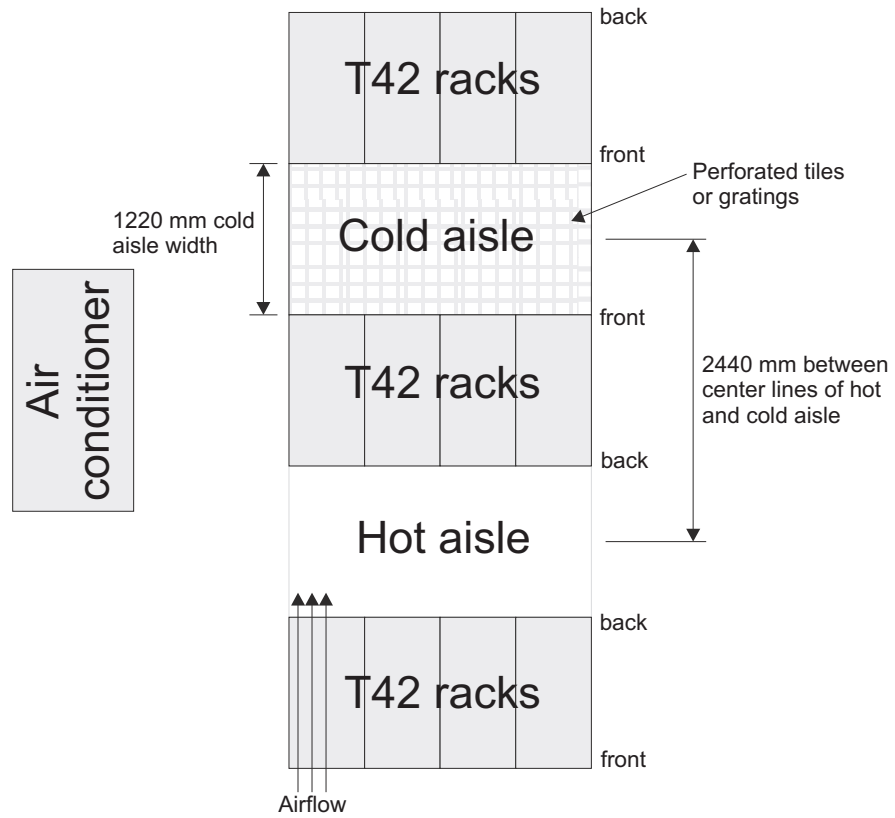

Figure 11. Example of cold aisle/hot aisle rack configuration
- Air enters at the front of the rack and leaves at the back. To prevent the air that is leaving the rack from entering the intake of another piece of equipment, you must position the racks in alternate rows, back-to-back and front-to-front. This arrangement is known as “cold aisle/hot aisle” and is shown in Figure 11 on page 25.